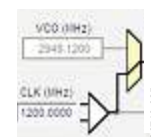

Figure 6. Mux Symbol
5. Select the VCO as the input to the clock distribution circuitry by clicking the mux symbol that is located immediately to the right of the **VCO (MHz)** box (see Figure 6).